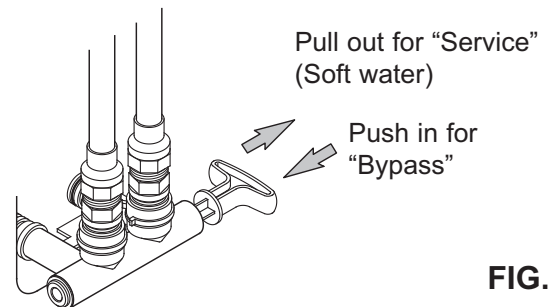
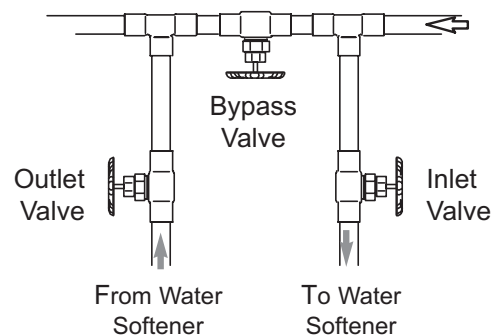

FIG. 7
FIG. 8
Always install either a single bypass valve (provided), as shown in Figure 7, or, if desired, parts for a 3 valve bypass system (not included) can be purchased and assembled, as shown in Figure 8. Bypass valves allow you to turn off water to the softener for maintenance if needed, but still have water in house pipes. Pipe fittings must be 1.9 cm minimum.
**CAUTION:** The house cold water pipe (metal only) is often used as a ground for the house electrical system. The 3-valve bypass type of installation, shown in Figure 8, will maintain ground continuity. If you use a plastic bypass valve at the unit, continuity is broken. To restore the ground, do the following:
2. Place the bypass valve (single or 3 valve) into the "bypass" position. See Figures 7 & 8 on Page 7.